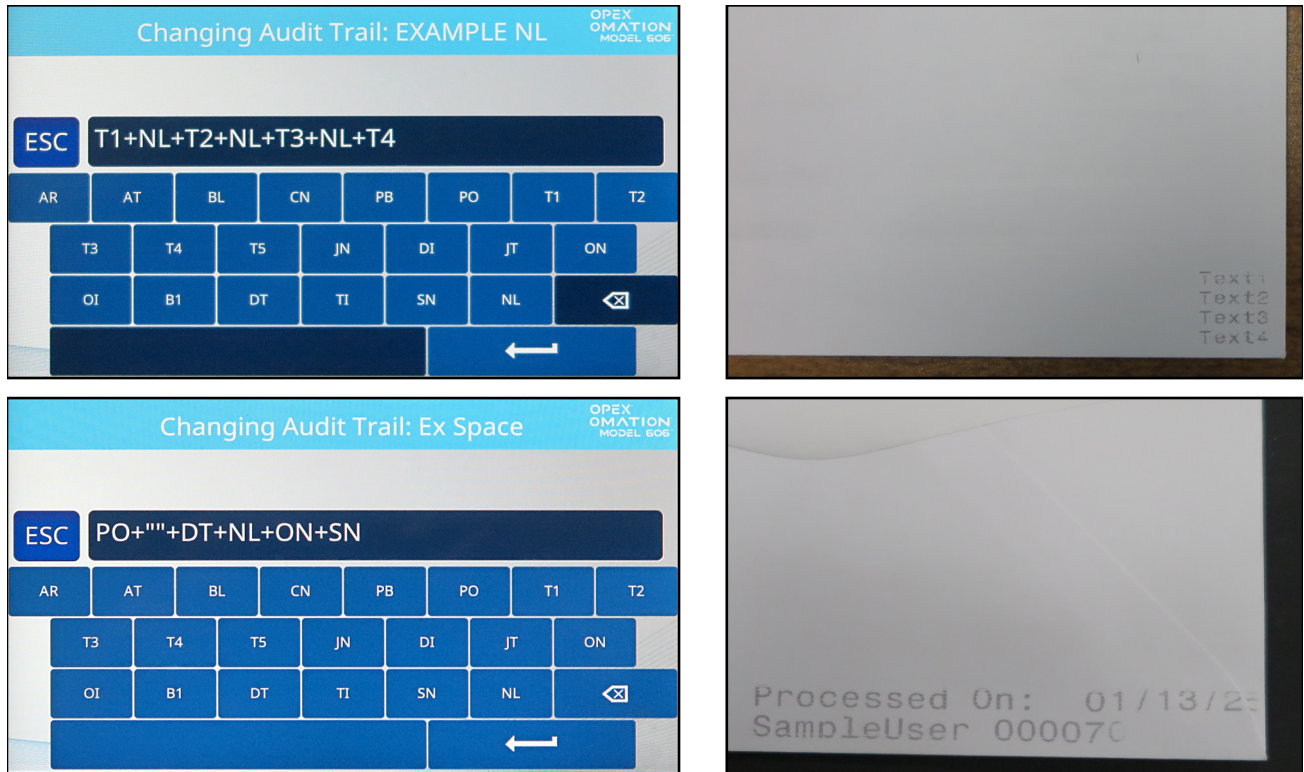

Figure 6-47: Examples of NL and Space outputs
- **NL**: Used to add a new element as a separate line to be printed (Figure 6-47). You can have up to 4 lines. Note that the size of the text will decrease as more lines are added. The overall height of the audit trail stays consistent, approximately 1/2" (1.27cm).